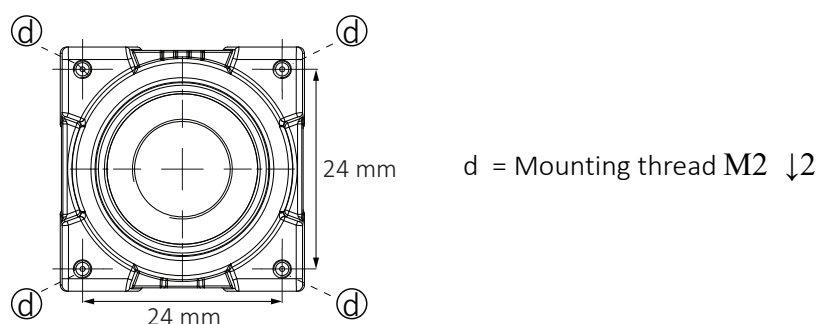

Figure 55: Camera front with mounting threads
1. Mount the camera to the base using suitable M2 screws at 0.18 Nm maximum torque for a thread engagement of 2 mm between screws and mounting threads, see Figure 55. For technical drawings, see Dimensions and mass on page 112.